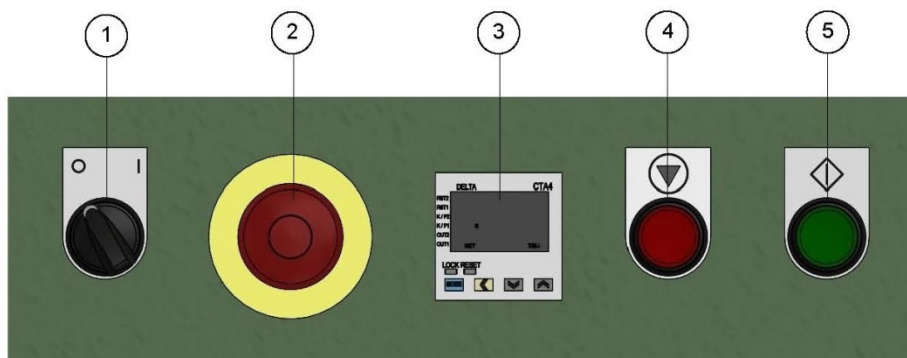

Figure 1: Control Panel
4. Set the timer to the desired mixing time (Item 3, Figure 1) by pressing the up or down arrow on the timer. The default setting is in seconds. To change this to minutes or hours, please refer to the OEM manual.
6. Press the Start Button (Item 5, Figure 1).